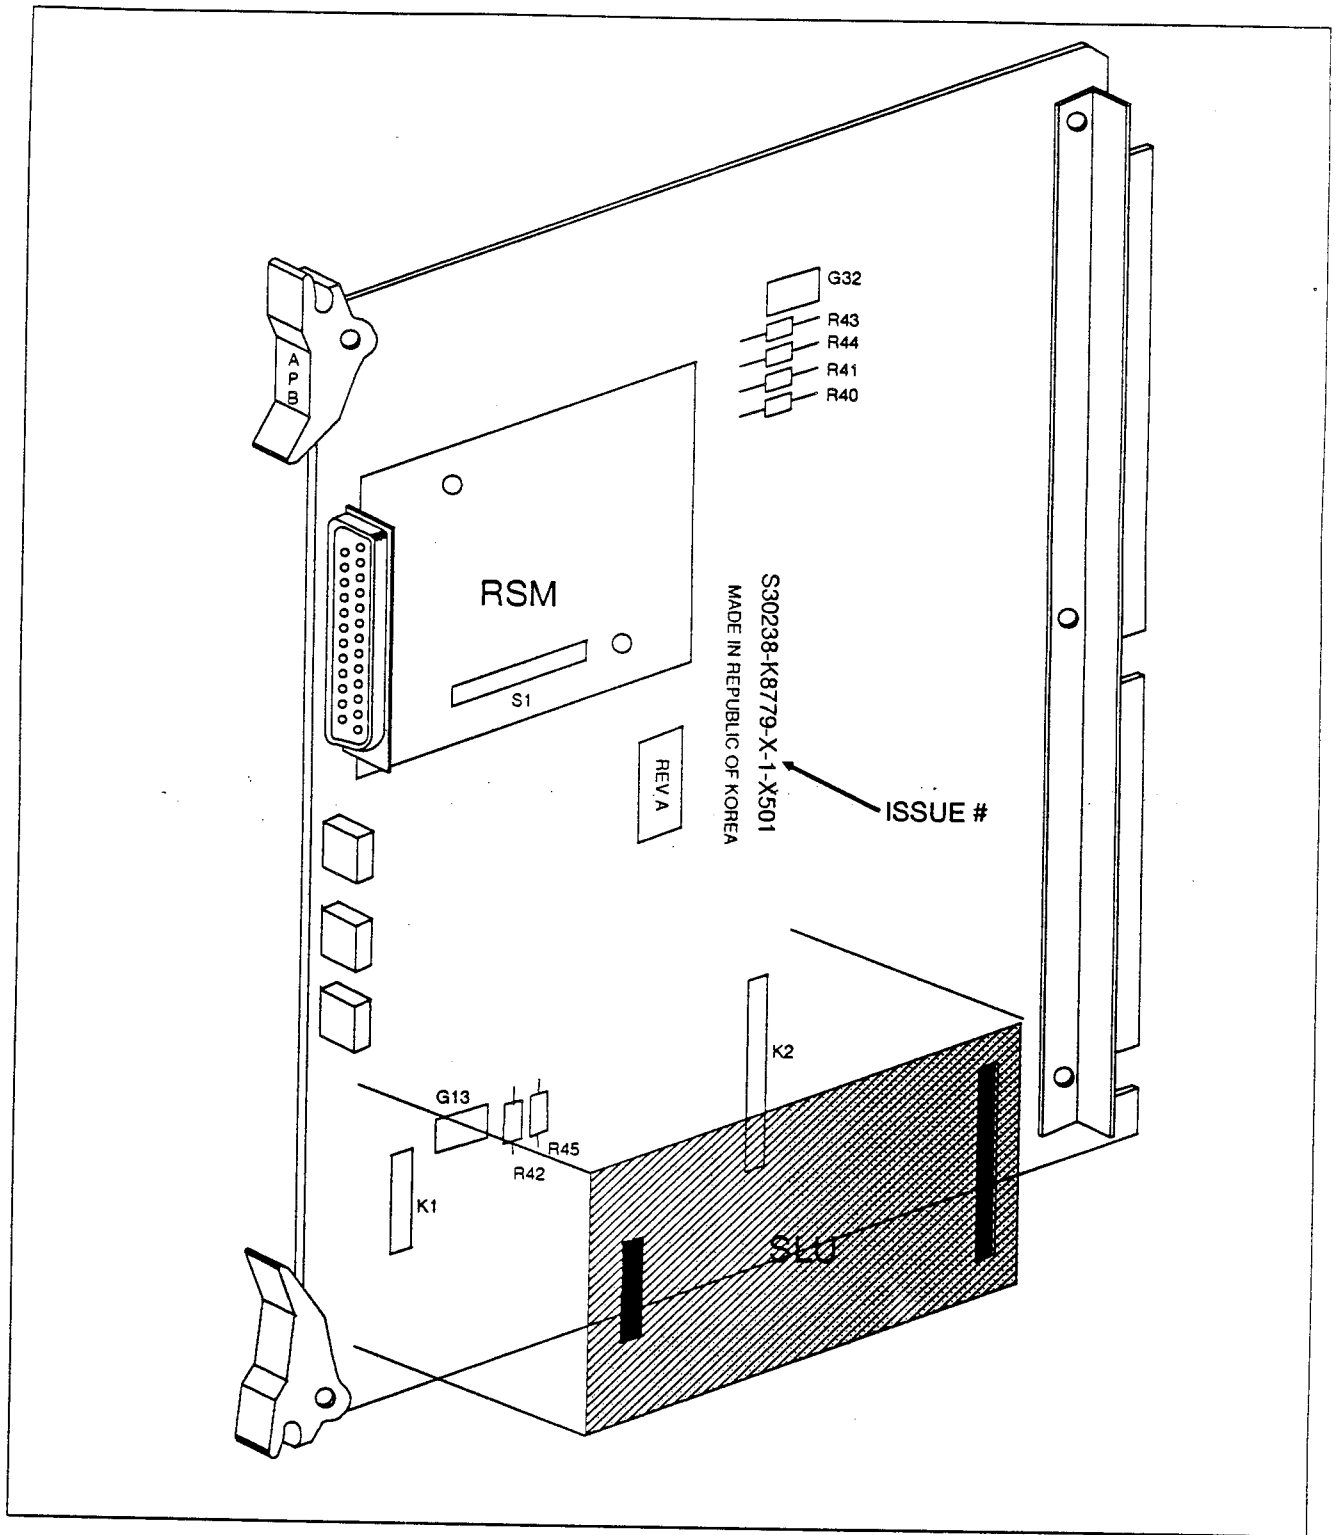

Figure 1 Application Board (APB)
NOTE: R40, R41, R43, R44 are located by the 8 pin IC labelled G32 on the PCB. R42 and R45 are located by the 14 pin IC labelled G13 on the PCB (see attached figure 1).
5. Adhere the revision label (or mark with a permanent marker) on the PCB near the white silkscreened PCB identifier (see figure 1) "Rev A". Note, also mark the label of the unit box if applicable.